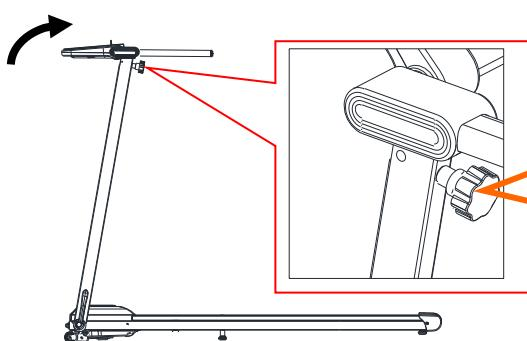

Figure 1
- The armrest tube is folded down as shown in Figure 1; the electronic display is folded up as shown in Figure 2.